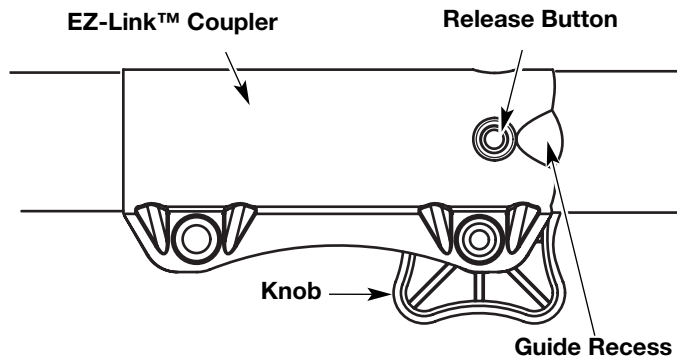

Fig. 11
1. Turn the knob counterclockwise to loosen (Fig. 11).
2. Press and hold the release button (Fig. 11).
1. Turn knob counterclockwise to loosen (Fig. 11).
**NOTE:** Aligning the release button with the guide recess will help installation (Fig. 11).